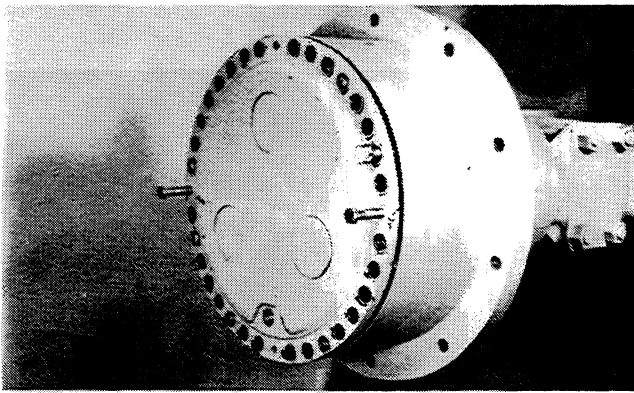

Figure 1:
3. The planet carrier assembly may now be removed from the hub. Be sure to handle with care to avoid personal injury and/or damage to equipment. If necessary, use the jacking screws to initiate planet carrier separation from the hub (Fig. 1).